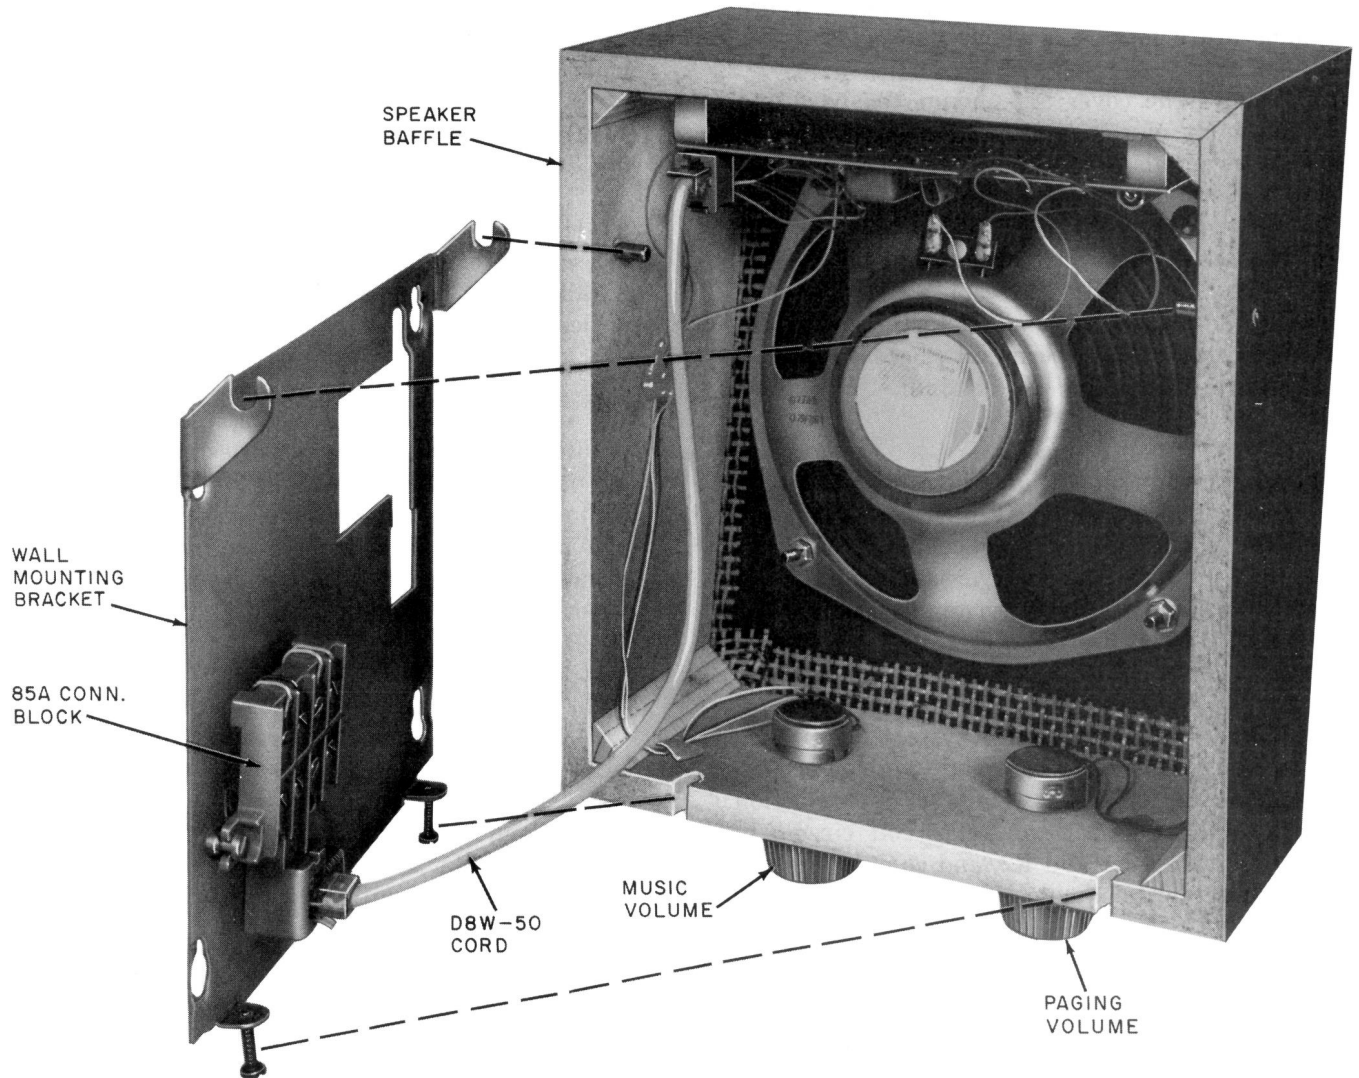

Fig. 27—109A Loudspeaker Set (New Model)
- (1) The loudspeaker set is shipped completely assembled. Loosen the two locking screws on the bottom of the loudspeaker set and separate the wall bracket from the baffle (Fig. 27). Unplug the D8W cord from the 85A block.
(5) While holding the loudspeaker baffle up near the wall bracket, plug the free end of the D8W cord into the modular jack of the 85A block (Fig. 27).
(6) Mount the loudspeaker baffle on the wall bracket by hooking the two pins on the inner sides of the baffle into the two mounting slots of the wall bracket. Press the baffle down against the bracket so that the two slots in the lower edge of the baffle fit over the two locking screws of the wall bracket; tighten the screws.♦
(7) After all installation is complete, adjust and test each loudspeaker as described in 3.39.